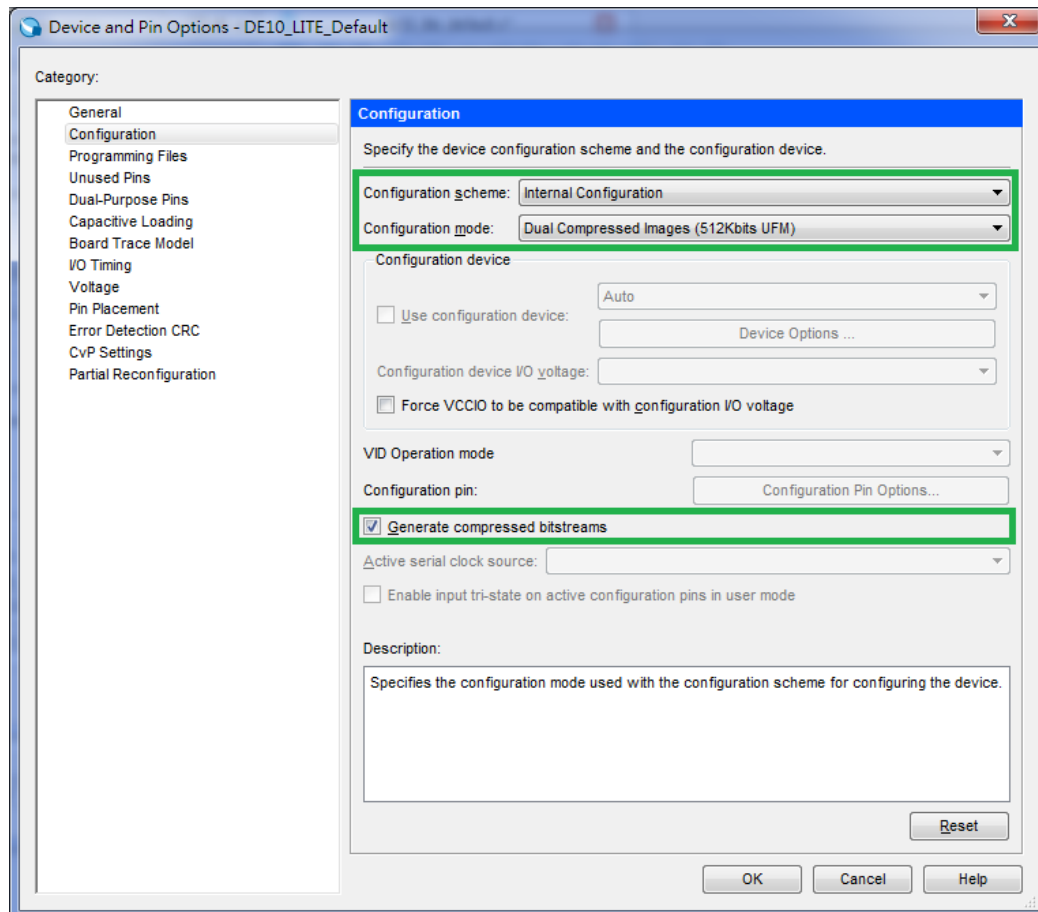

Figure 6-12 Set Dual Configuration Mode
2. Click **Device and Pin Opinions** to open the Device and Pin Opinions windows, and in the **Configuration** tab, Set the **Configuration Scheme** to **Internal Configuration** and the **Configuration Mode** to **Dual Compressed Images**. Check the Option of **Generate compressed bitstreams**. shown in **Figure 6-12**.